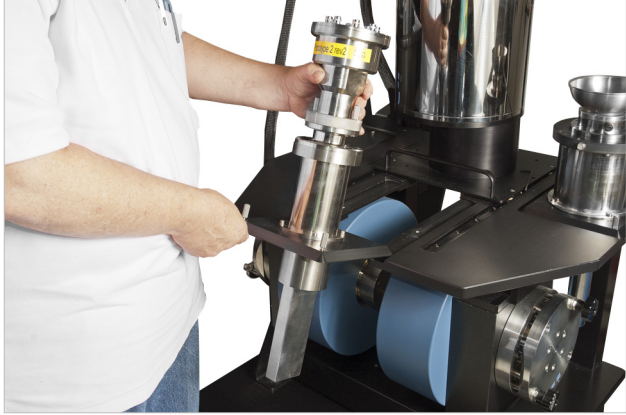

FIGURE 4-3 *Left: Sliding the standard insert into the measurement position;
- b. Slide the standard module into the measurement position slot and push it all the way back, using the alignment guide, until the captive screws line up with their corresponding holes at the front of the alignment guide (FIGURE 4-3).
5. Push down on the captive thumbscrews to hand tighten them and secure the module to the measurement position (FIGURE 4-3).